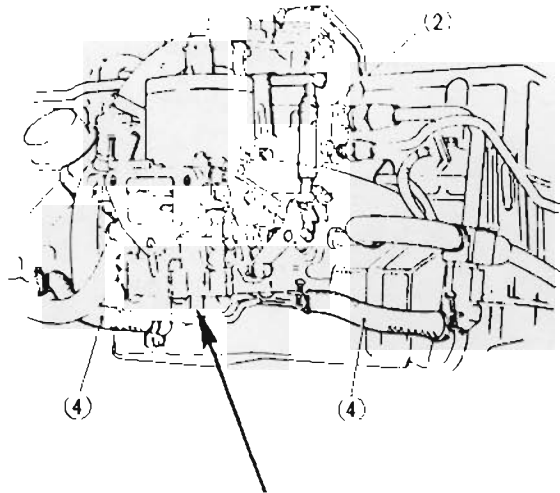

Fig. 3 Temperature Sensor Location
2. The thermostatic switch should be mounted on the rear carburetor (between carburetor base and heat shield), using the shield securing bolt. The heat shield must remain installed. Refer to Figures 3, 4, and 5.